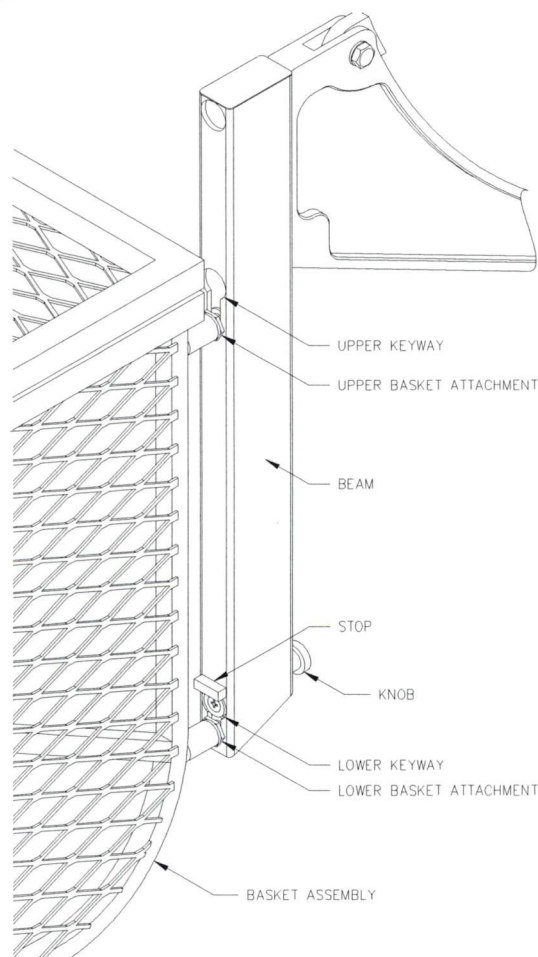

Figure 3 – Basket Attachment
1. Installation - Refer to Figure 3/4.
2. Removal - Refer to Figure 3/4.